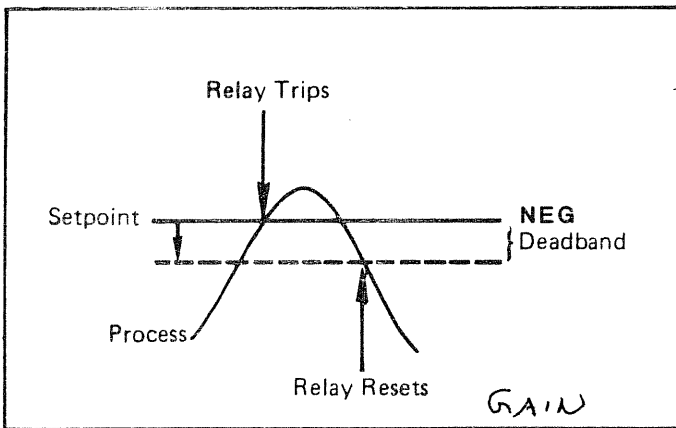

Figure 5-10. High Trip Limit
- 5.5.2 Setting Deadbands. The Series V adopts the following convention: Programming negative values of deadband configures the set point as a high-trip limit alarm. Programming positive deadband values configures the alarm as a low trip limit. Refer to figure 5-10 and 5-11.